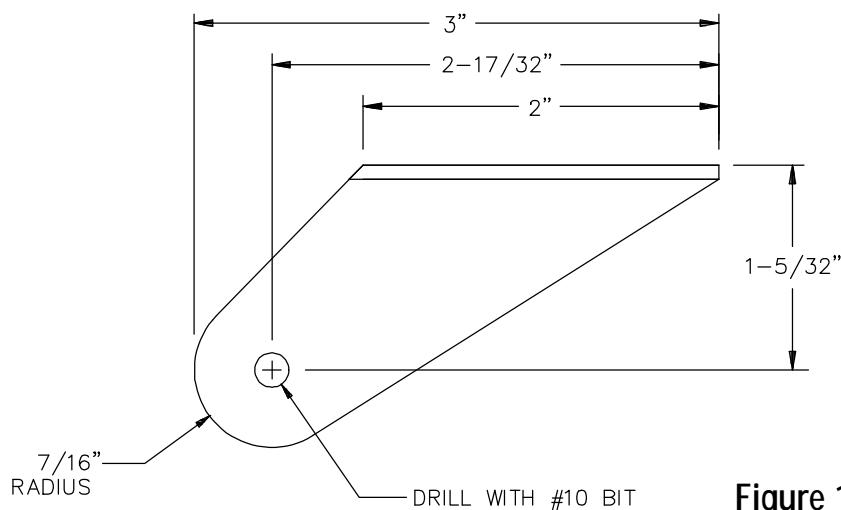

Figure 1: Dimensions for New-Style Trim Tab Control Horn
If you elect to remove the counterweight arm but retain the original control horn, you have the further choice of leaving the horn as is or trimming it to match the current shape, as shown in Figure 1.
If you wish to replace the trim tab control horn, order **3-1/2"** of **.050" X 1-1/4" X 1-1/2" aluminum tee extrusion** (P/N 100-0640-007) and fabricate a new control horn to the dimensions shown in Figure 1 on the following page. Drill out the old control horn rivets, and use a hole duplicator to drill matching holes in the attach flange of the
For GlaStars on which the trim tab counterweight has not yet been installed, it is recommended that the trim tab control horn be fabricated to the dimensions shown in Figure 1 and that the trim tab counterweight arm and counterweight be omitted. Concretely, that means the following:
- A) Substitute Figure 1 below for Panels A and B of Figure 39.1 in "SECTION V: ELEVATOR ASSEMBLY."